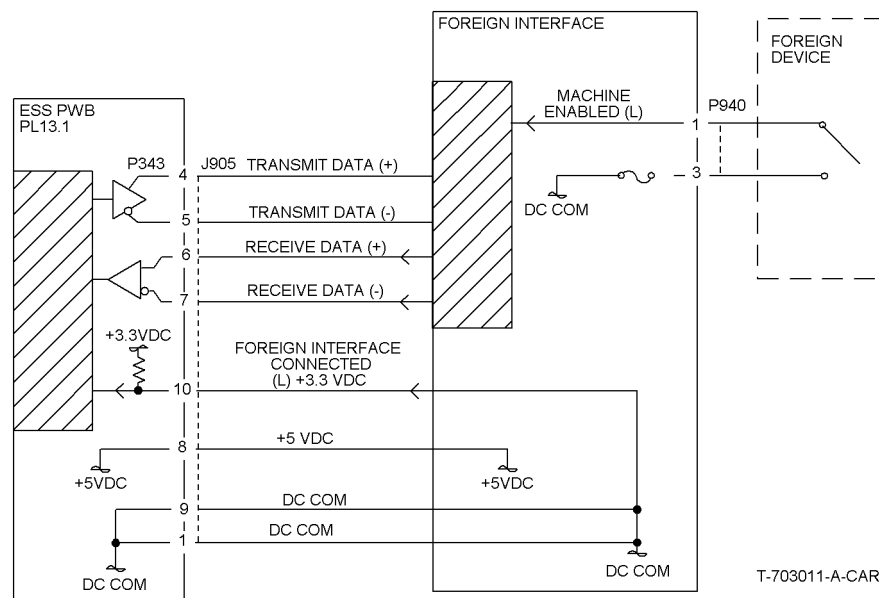

Figure 1 21-360 RAP Circuit Diagram
**NOTE:** Refer to Figure 1 (Circuit Diagram).